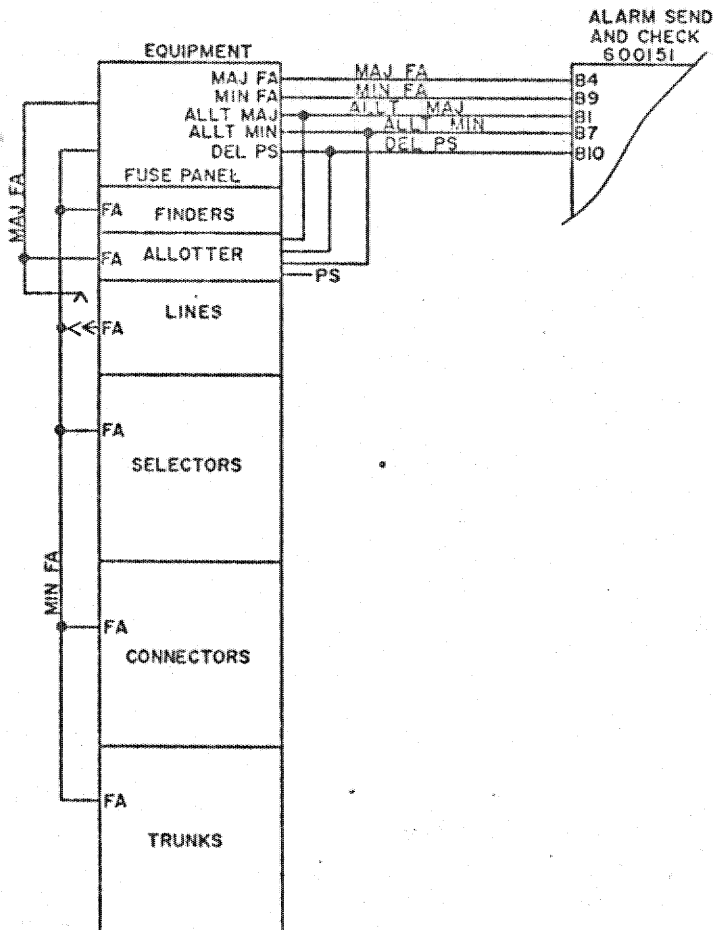

Figure 1. EMS Interconnections
5.03 The Fuse Panel may be interconnected in many different configurations to satisfy engineering requirements. Figure 1 shows the Fuse Panel circuit connections as suggested with ITEC EMS-1 equipment. Consult the factory Customer Service for special applications not covered in this manual.